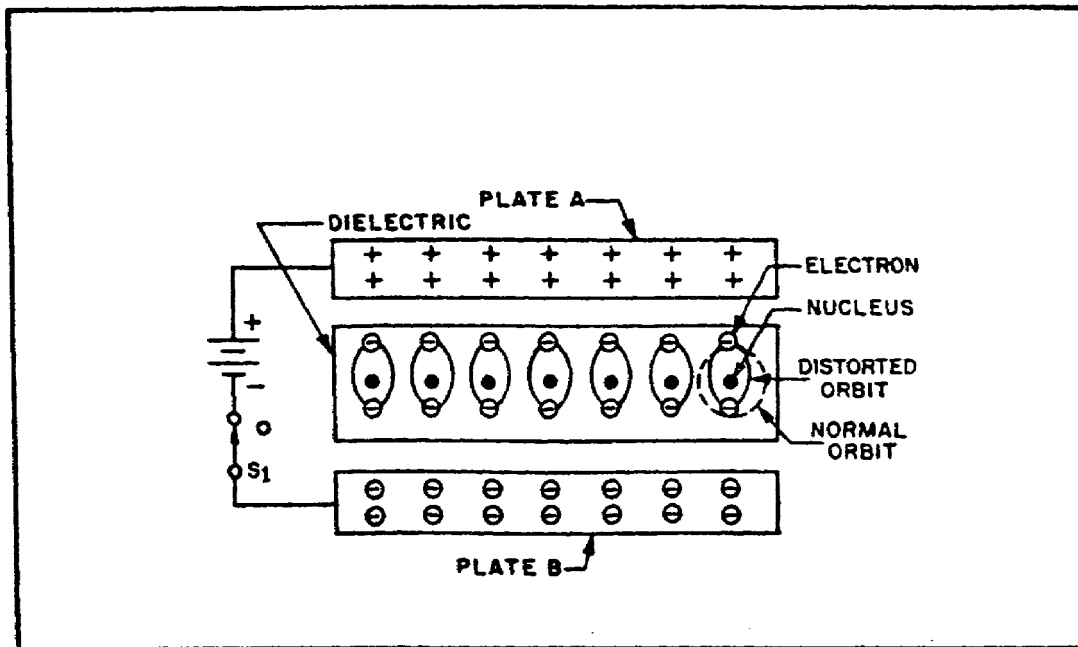

FIGURE 29. DISTORTION OF AN ELECTRON'S ORBITS IN A DIELECTRIC.
b. *The Simple Capacitor.* A simple capacitor consists of two metal plates separated by an insulating material called a dielectric, as illustrated in figure 29 on the following page. Note that one plate is connected to the positive terminal of a battery; the other plate is connected through a closed switch (S1) to the negative terminal of the battery. Remember, an insulator is a material whose electrons cannot easily 'escape their orbits. Due to the battery voltage, plate A is charged positively and plate B is charged negatively. Thus an electrostatic field is set: lip between the positive and negative plates. The electrons on the negative plate (plate B) are attracted to the positive charges on the positive plate (plate A).